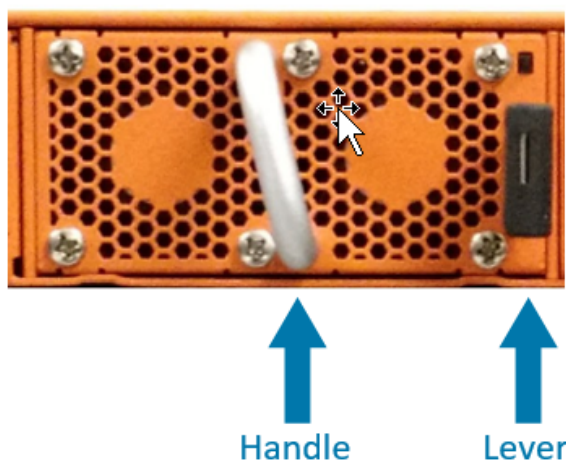

Figure 13 *Replacing a Fan (GigaVUE TA Series-TA400 Shown)*
1. Locate lever and handle as shown in Figure 13 Replacing a Fan \(GigaVUE TA Series-TA400 Shown\).